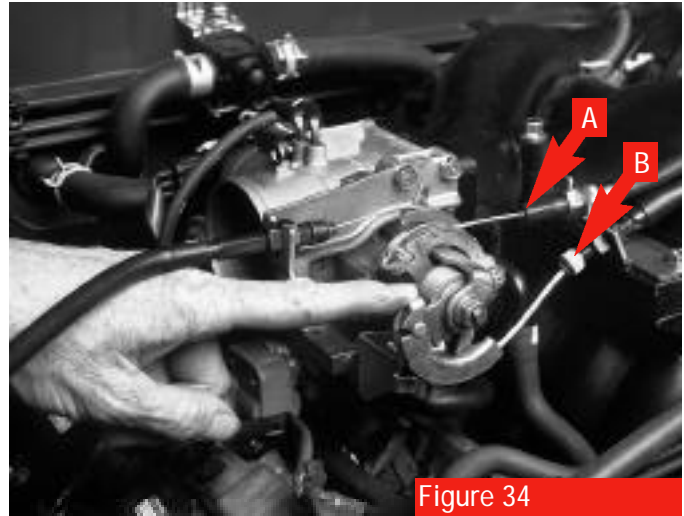

Figure 34
10. Install the transmission kickdown cable (see arrow A, figure 34) and throttle cable (see arrow B, figure 34) in the bracket.